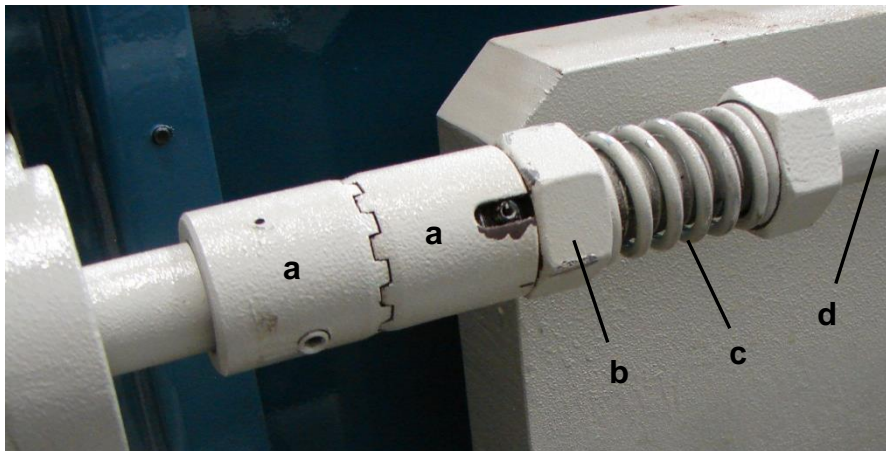

figure 9
2. Disengage the two halves of the coupling link “a” by first turning nut “b” clockwise (**cw**) to compress spring “c” (fig. 9).